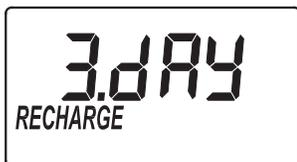

FIG. 17
1. If you completed the previous step, the word "RECHARGE" should show in the display (See Figure 17). Otherwise, press the SELECT button several times until it does.